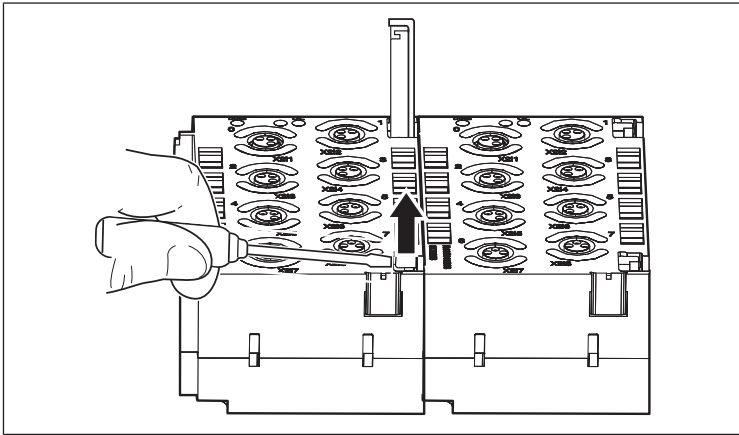

Fig. 6: Release the spring clamp element and pull it up to the stop
1. At the right side of the previously removed I/O modules, lift up both spring clamp elements until the stop (see Fig. 6: Release the spring clamp element and pull it up to the stop).
2. Release all of the required spring clamp elements, e.g. using a screwdriver, and pull them up to the stop (see Fig. 6: Release the spring clamp element and pull it up to the stop).
3. Lift up both spring clamp elements on the new I/O module until the stop (see Fig. 6: Release the spring clamp element and pull it up to the stop).
2. Release the spring clamp elements, e.g. using a screwdriver, between the I/O module and the left end plate, and pull up both spring clamp elements to the stop (see Fig. 6: Release the spring clamp element and pull it up to the stop).